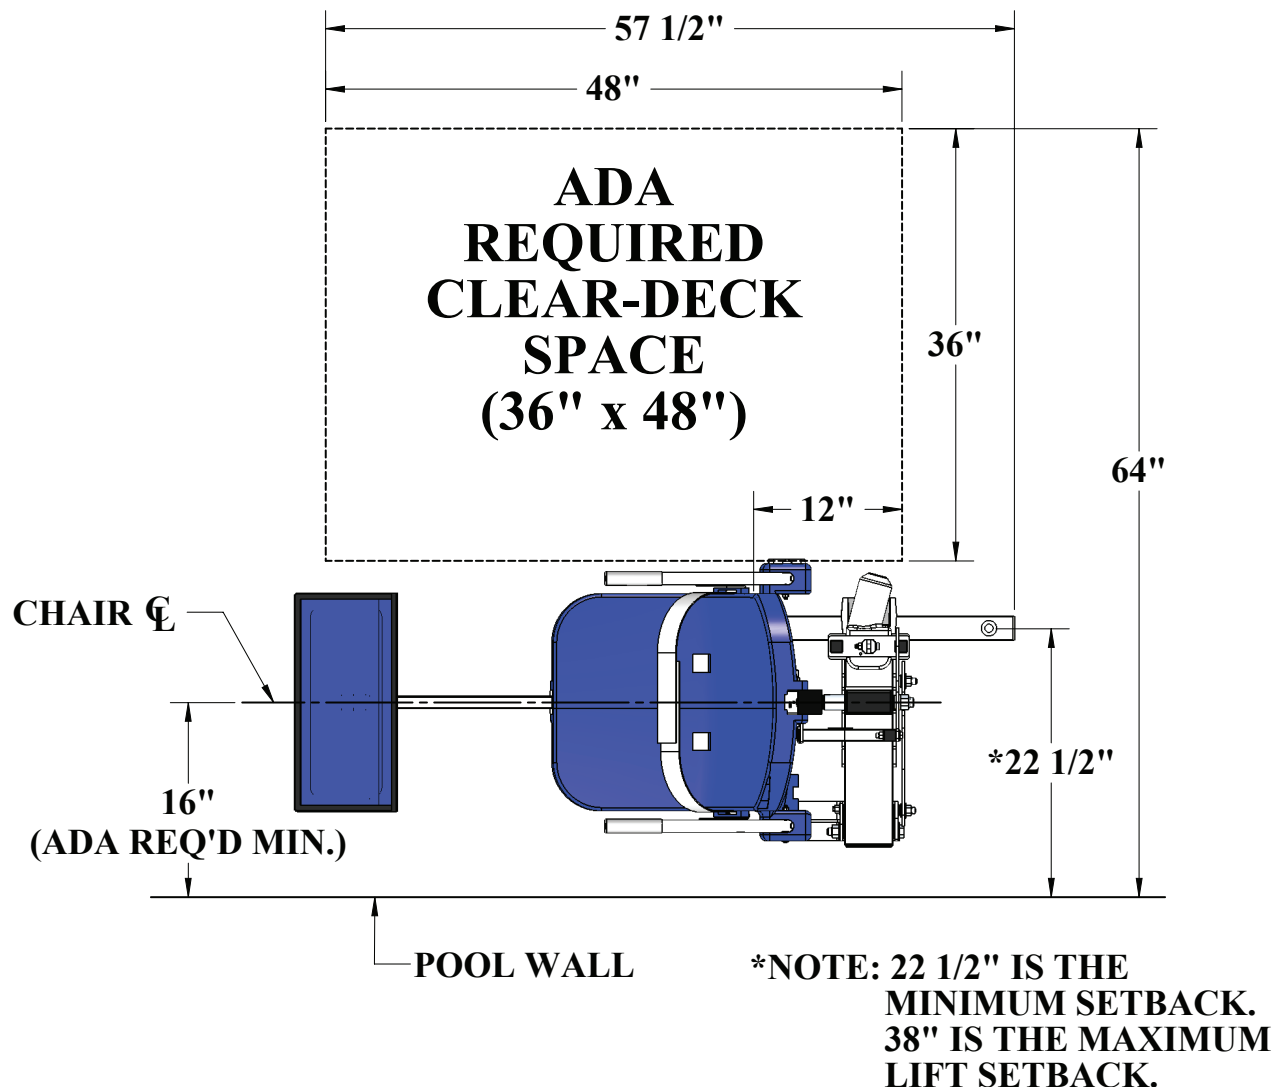

FIGURE 1
- Clear deck space dimensions (see FIGURE 1)
*SEE FIGURE 1 ON PAGE 3*